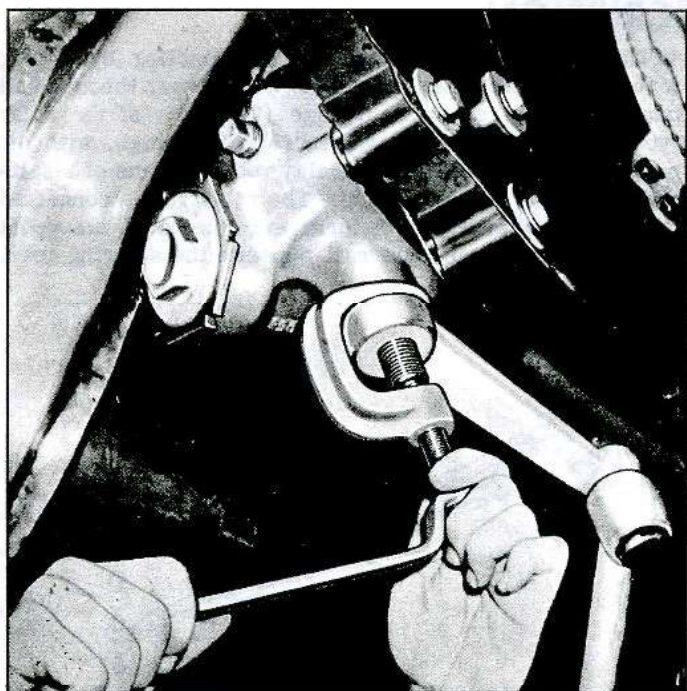

Fig. 3—Removing Pitman Arm With Tool J-6627
1. Remove pitman arm nut and lock washer and, using Tool J-6627, pull pitman arm from pitman shaft (fig. 3).